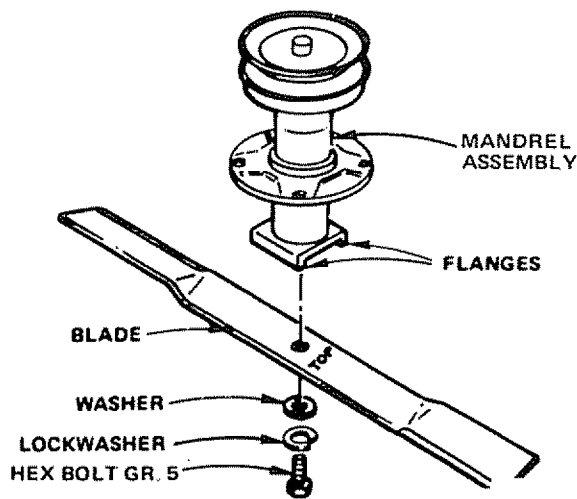

FIGURE 21
1. Remove Bolt, Lockwasher and Washer (Fig. 21) (turn counterclockwise).